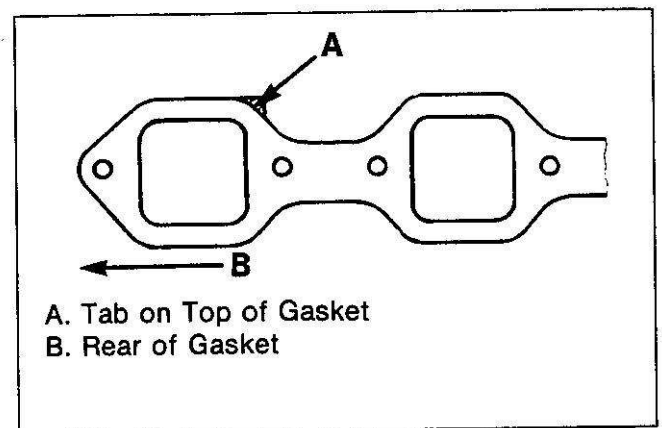

Figure 10. Intake Manifold Gasket Installed Position
1. Gasket (14) as shown in figure 10.
2. Intake manifold (11).
3. Nuts (12) and bolts (13).